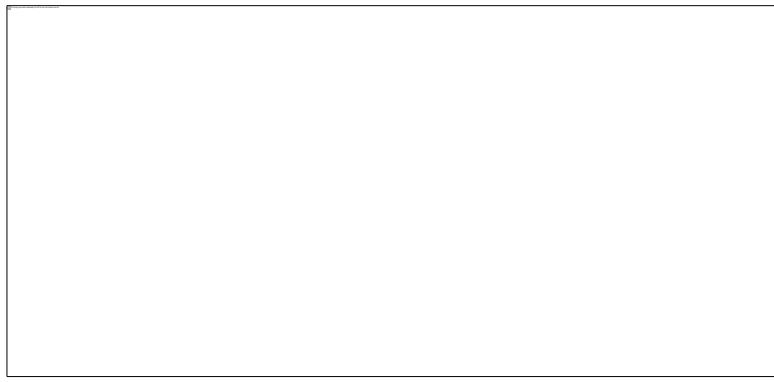

FIGURE 8.18
- Step 9: Connect the armature and compensating windings in series, across the 0-120Vac output of the power supply as shown in Figure 8.18.